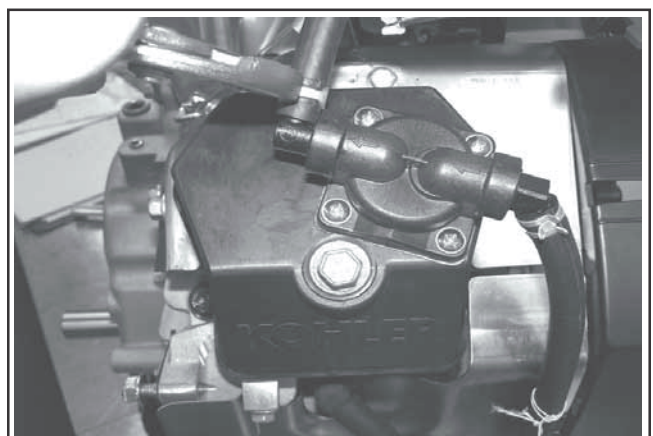

Figure 8-37. Disconnecting Fuel Lines.
1. The mechanical fuel pump is part of the valve cover and not serviced separately. Remove with the valve cover. Disconnect the fuel lines at the fuel pump fittings. See Figure 8-37. Properly contain any remaining fuel.